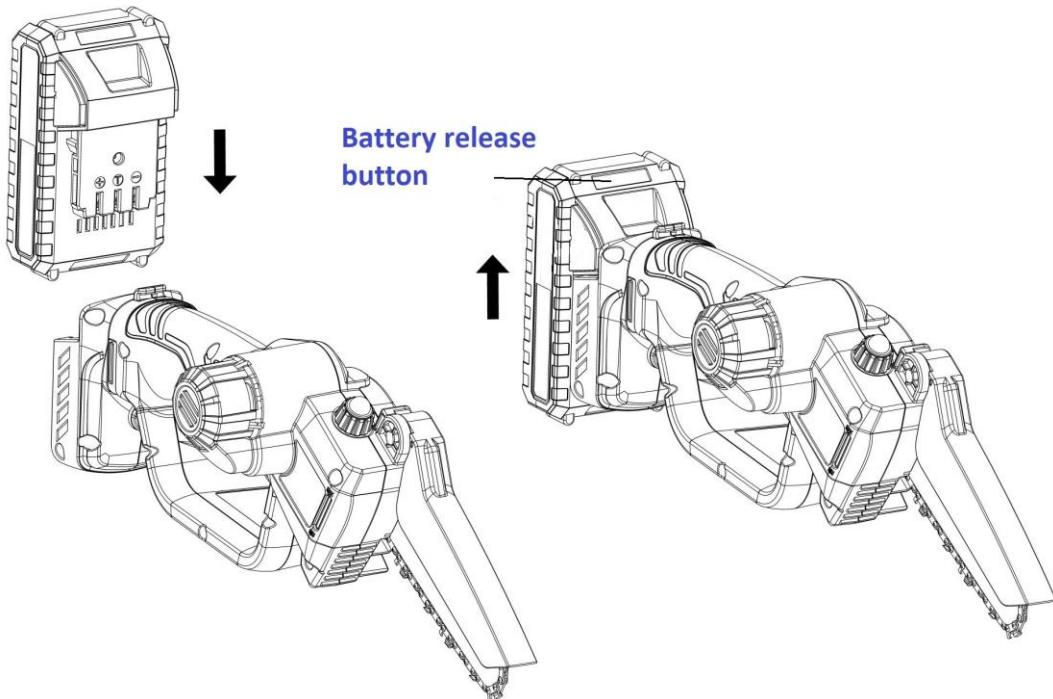

Fig. 3
4.5- Installing/removing the battery pack (Fig. 3)
- To install the battery pack (7), completely insert the battery into the battery compartment.
- To remove the battery pack, press down the battery release button (6), then pull out the battery pack.